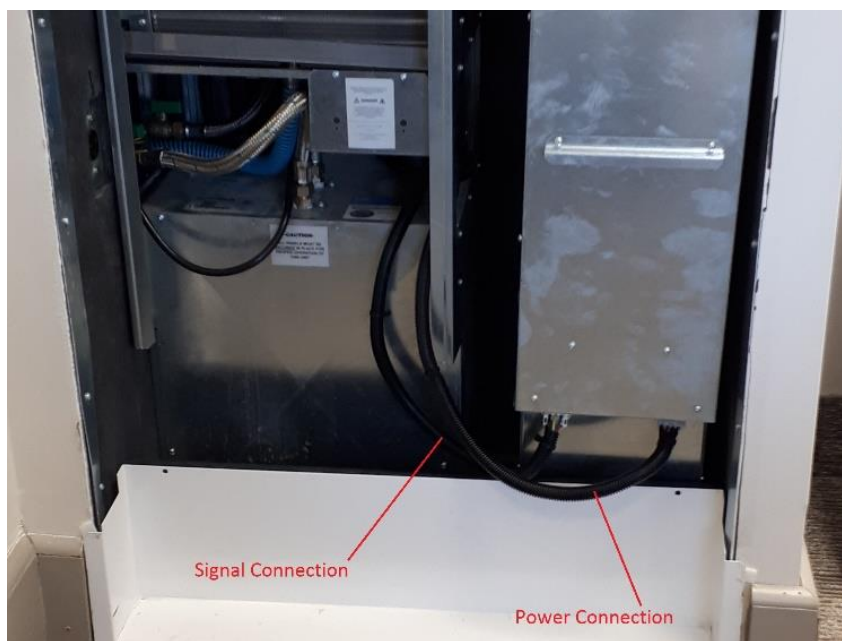

Figure 10
3. Connect signal through 9 pin Molex connection between ERV and chassis – **See Figure 10.**